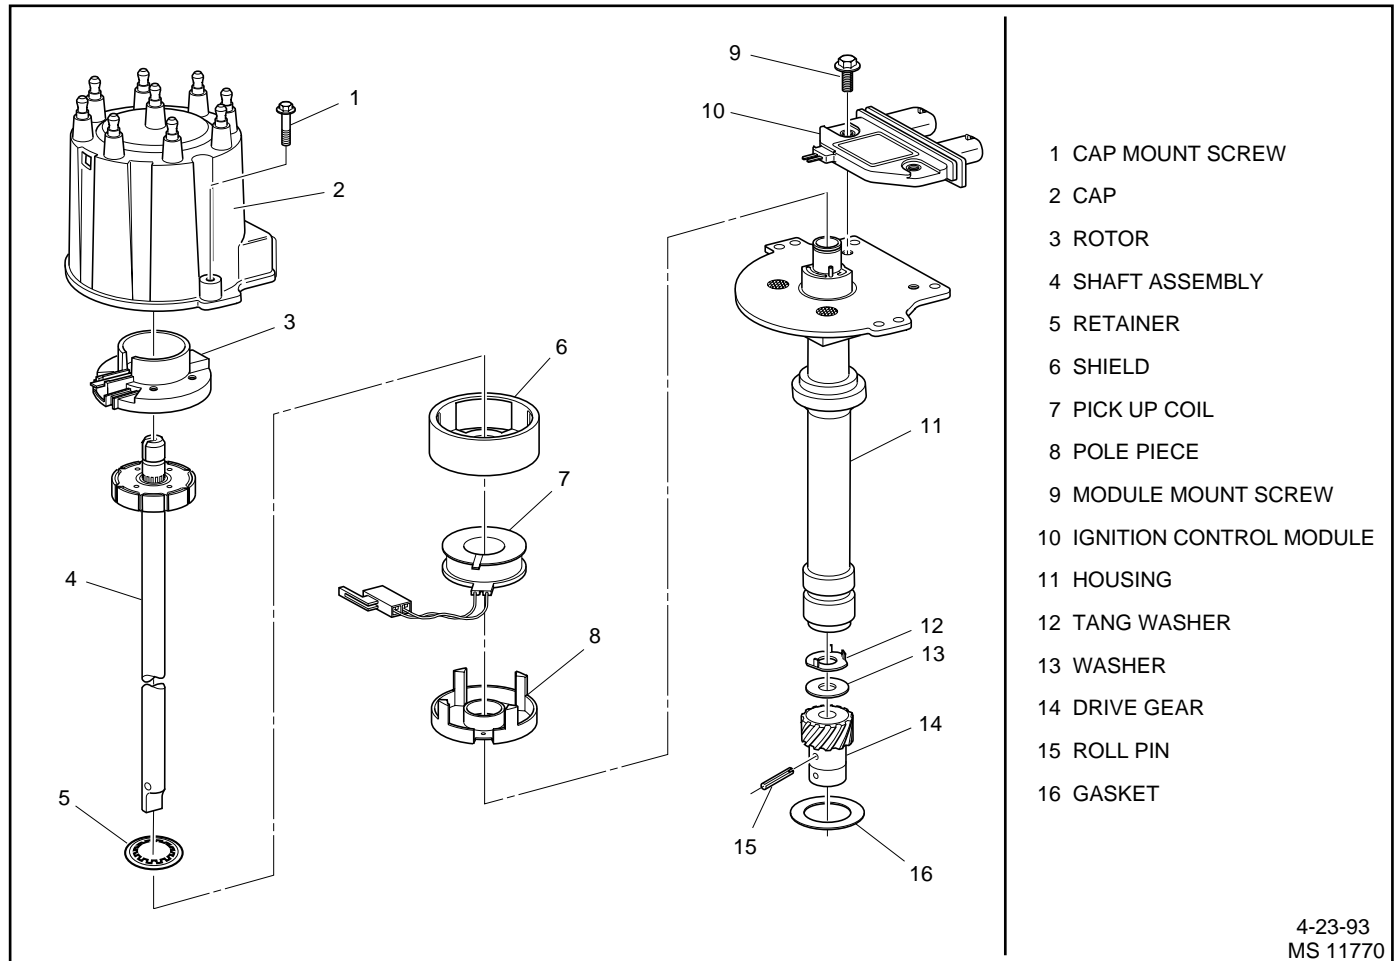
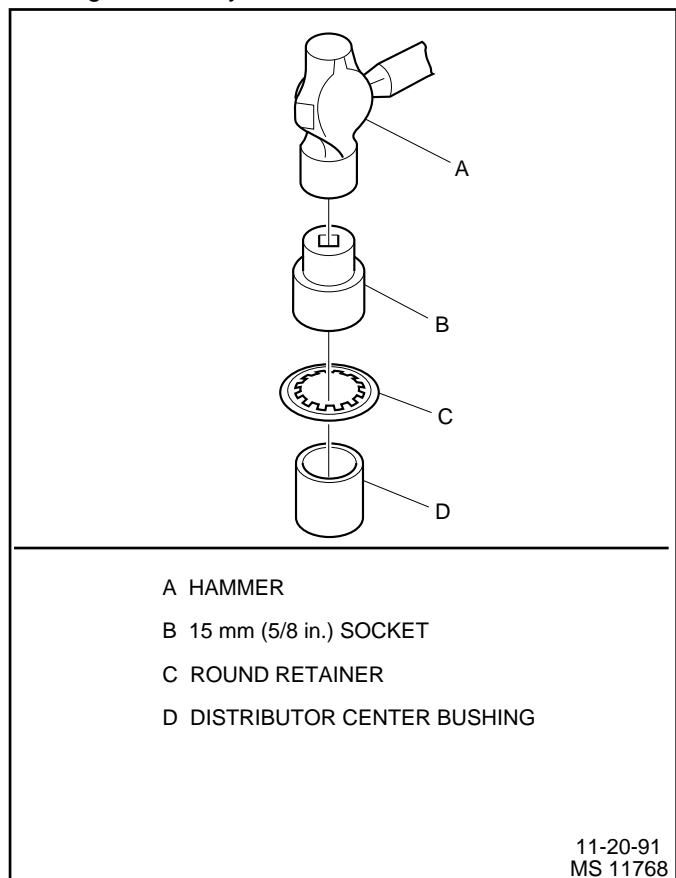

Figure 4-7 - Eight Cylinder Engine Distributor Components
Figure 4-10 - Retainer to Shield Installation
**Assembly***Figures 4-7 and 4-10***Install or Connect**
- 1. Ignition control module (10) to the housing (11) with two screws.
- 2. Pick-up coil (7).
- 4. Shield (6) onto the pick-up coil.
- 5. Retainer (5) onto the housing (Figure 4-10).
- 6. Shaft assembly (4) onto the housing (11).
- 7. Tang washer (12), washer (13) and drive gear (14) onto the bottom of the shaft.
- 8. Roll pin (15) into the gear.
- 9. Rotor (3) onto the shaft (4).